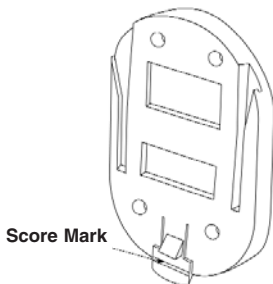

Figure 4
3. The release tab is scored with a mark (Figure 4). Carefully position pliers along the lower side of the score mark.